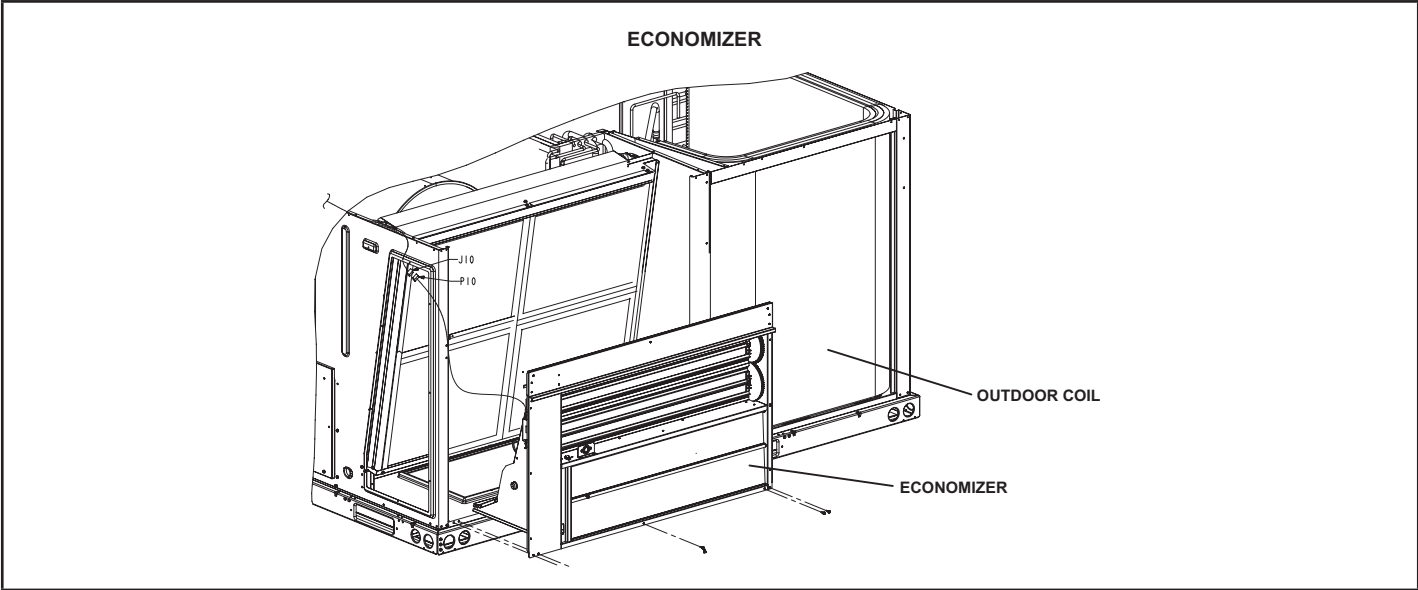

FIGURE 20
Economizers use outdoor air for free cooling when temperature and/or humidity is suitable. See FIGURE 20.
- 3 - At economizer/filter compartment, attach economizer plug(P10) to pre-wired harness jack (J10). See FIGURE 20.